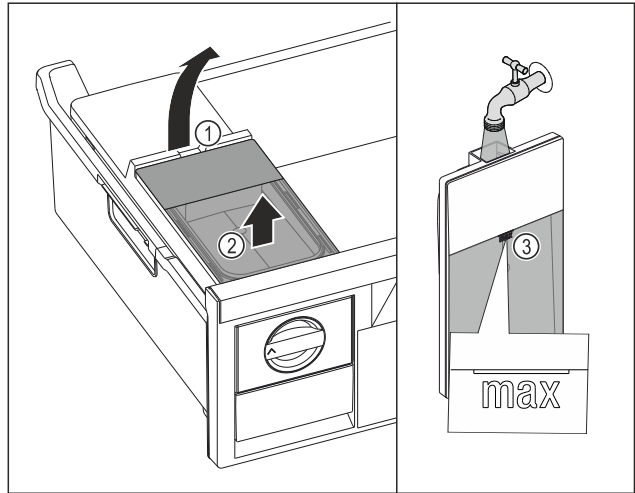

Fig. 109
- Lift the water tank at the recess Fig. 109 (1).
- Remove the water tank by lifting it upwards. Fig. 109 (2)
- Fill the water tank with drinking water up to the mark Fig. 109 (3).